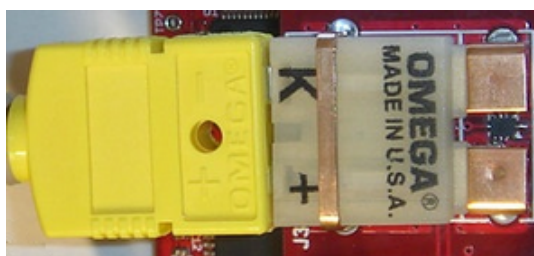

Figure 5. Connect Thermocouple
6. Connect a type K thermocouple probe to J3 on the ADS1118 BoosterPack, as shown in Figure 5